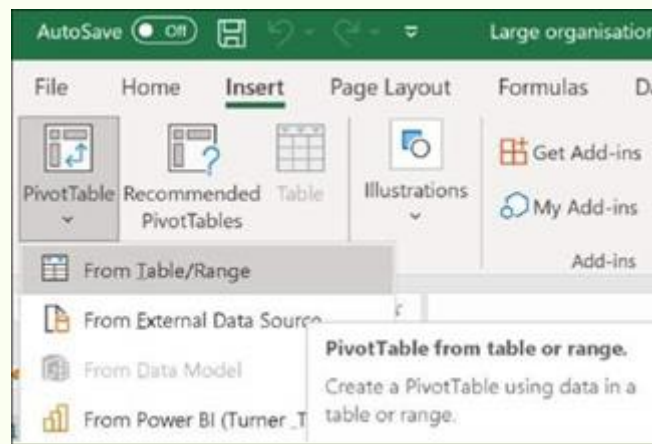

Figure 11. Select PivotTable from the Insert tab on Excel and choose 'From Table/Range'
1. Select the cells you want to analyse by pressing Ctrl + A on your dataset, this selects all the data on the Excel sheet (see Figure 11)